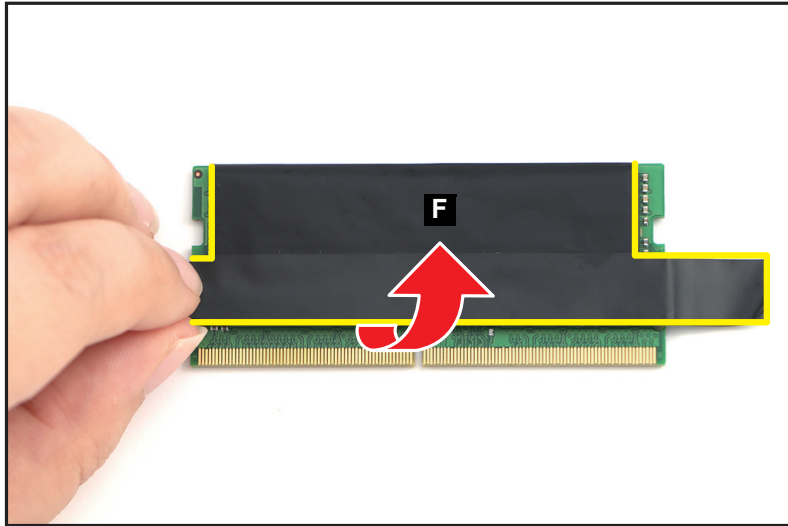

Figure 1-30. DIMM Module Removal
6. Peel off the composite foil with thermal pad (F) from the DIMM module (Figure 1-30).